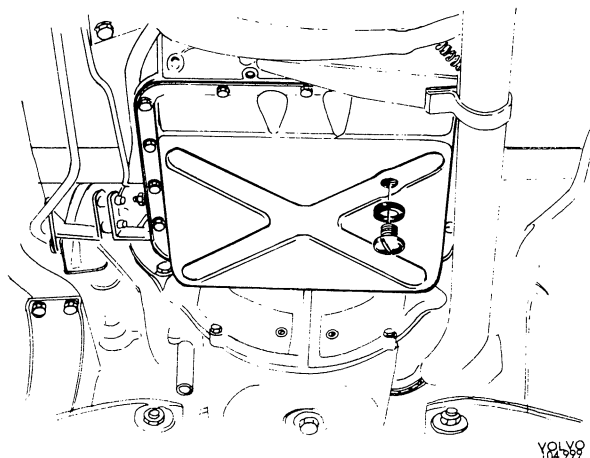

Fig. 4-68. Oil drain plug
1. Jack up and place blocks under the vehicle. Drain off the oil into a vessel which is absolutely clean. See Fig. 4-68.
2. Drain the oil into a completely clean vessel, see Fig. 4-68. N.B. The oil may be very hot and can scald if contact is made with the skin.